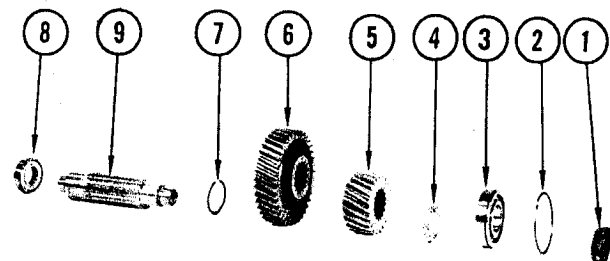

FIGURE 85. EXPLODED VIEW OF LOWER CREEPER GEAR ASSEMBLY
Refer to Figure 85 and disassemble the lower creeper gear assembly. Drill stake from locknut (1) and remove locknut. Retainer ring (2) was previously removed while
Refer to Figure 85 and reverse the numerical sequence as shown and the following information.